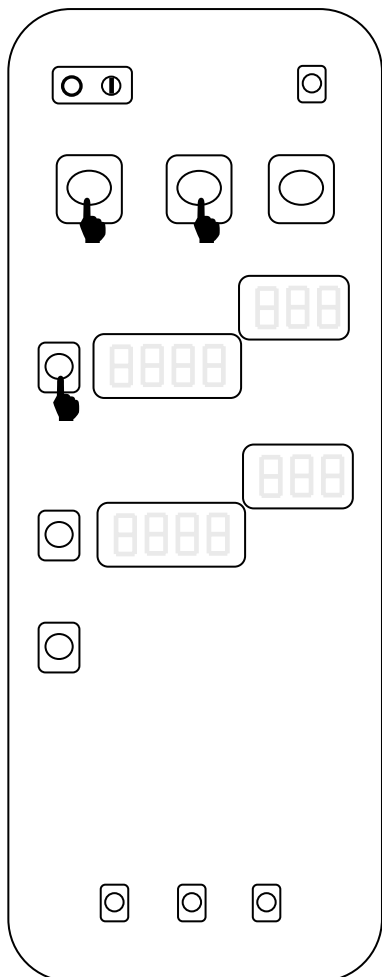

Fig. 20
- Steam cycle, combi cycle, temperature buttons (fig. 20): activation of detergent pump